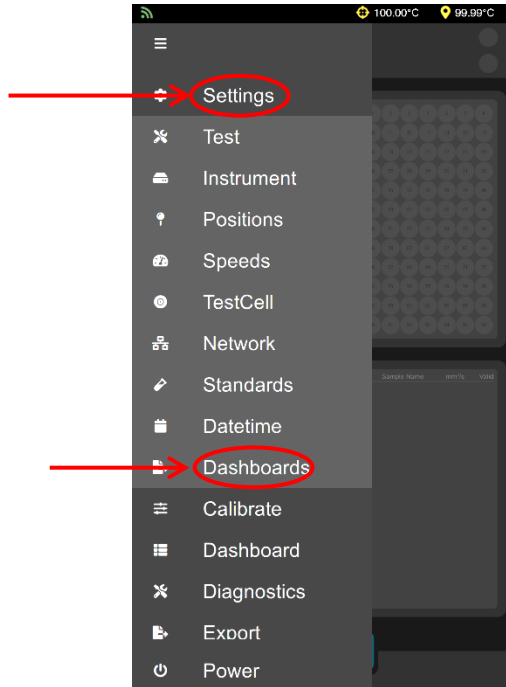

Figure 50: Settings Menu/Dashboards
- From the **Main Menu**, choose **Settings**. The **Settings** menu will expand, choose **Dashboards**. See Figure 50.
2. From the **Main Menu**, choose **Settings**. The **Settings** menu will expand, choose **Dashboards**. See Figure 50.